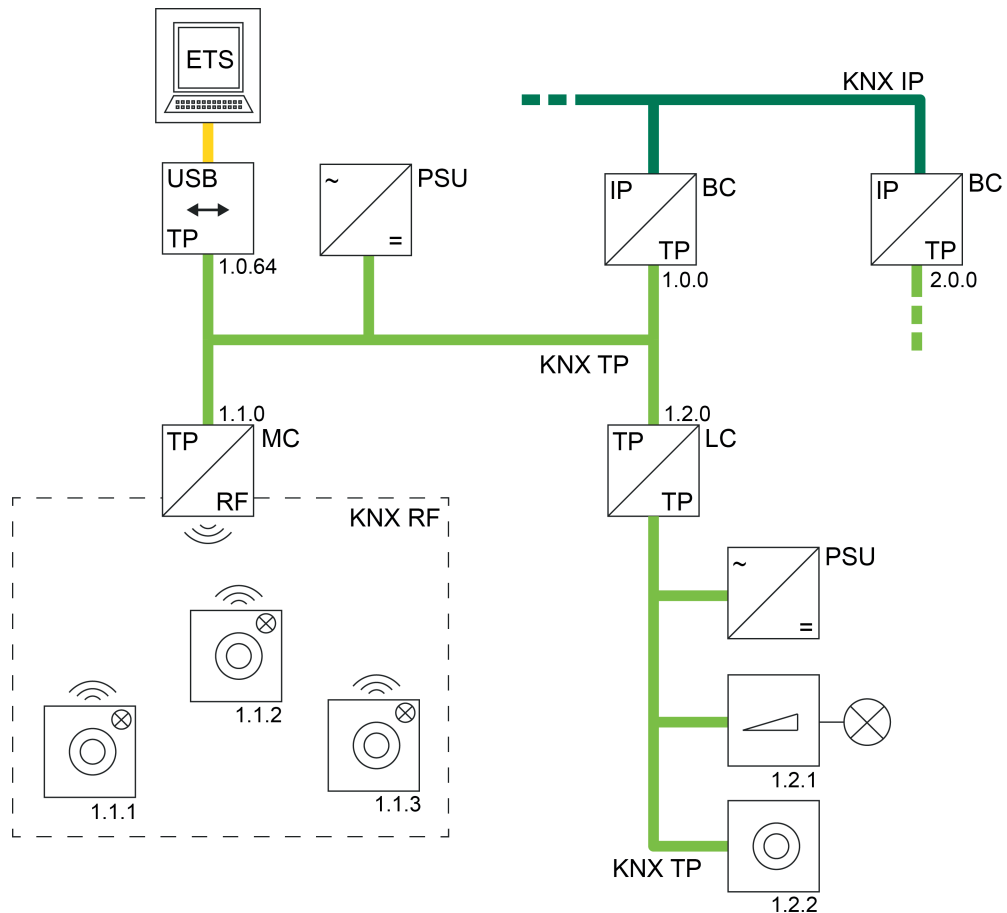

Figure 21: Example of a possible KNX topology with a KNX TP USB data interface
- Use of a KNX TP USB data interface (figure 21):